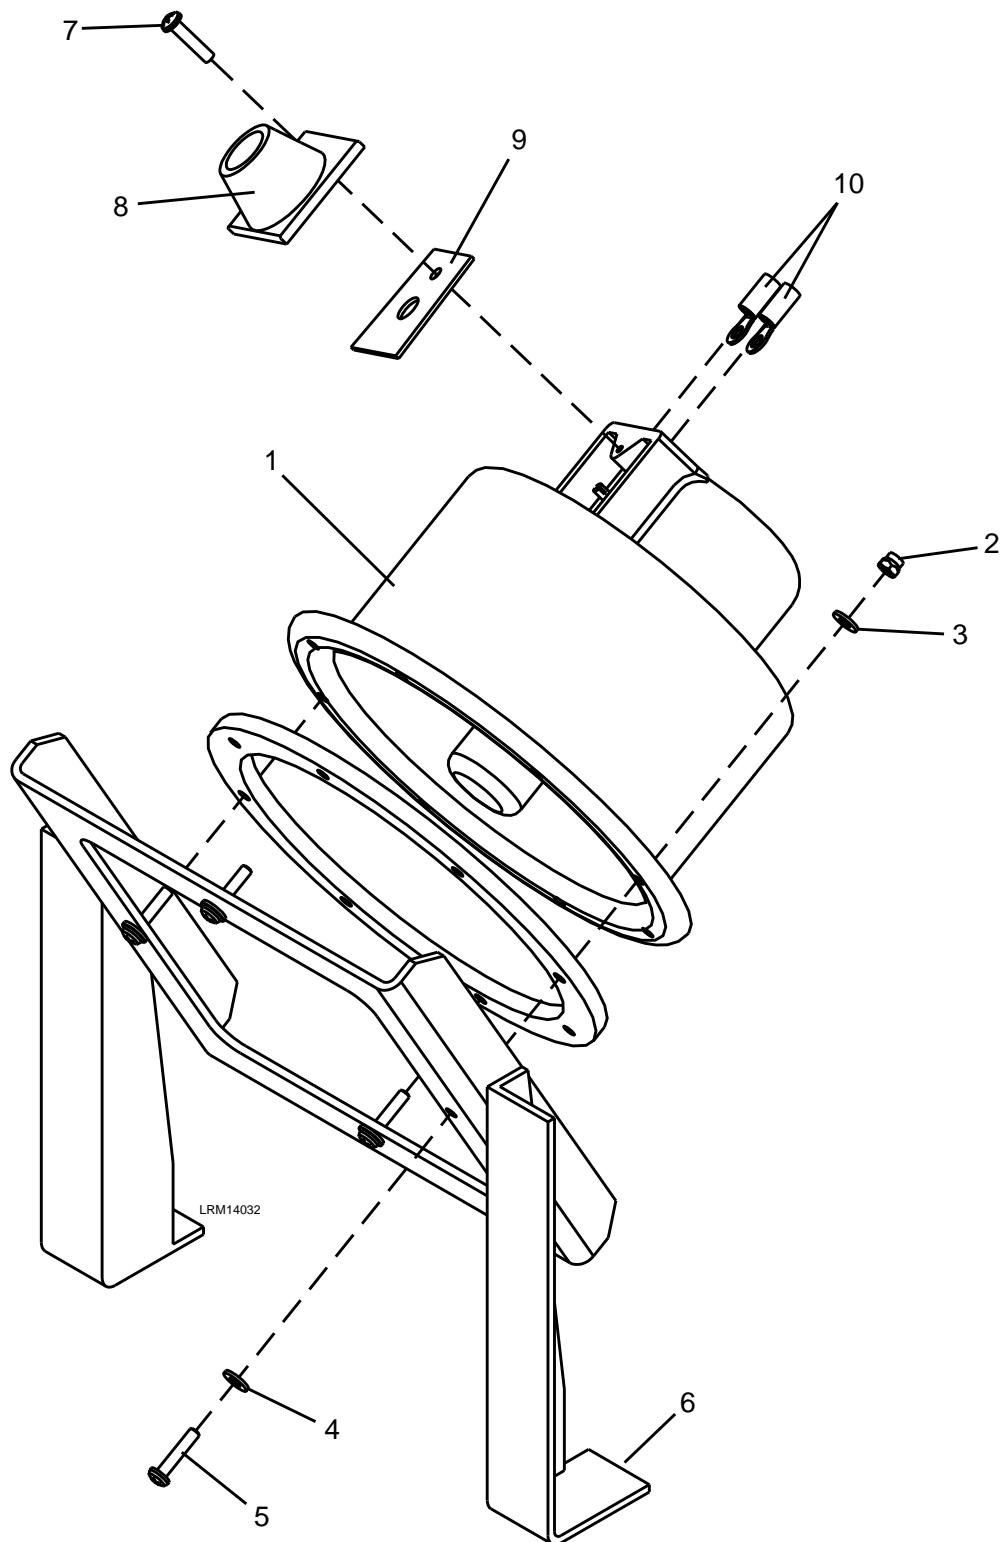

Figure 8-14: Exterior Speaker
1. Disconnect the #6 electrical connections (10) from the Exterior Speaker (1) by removing the screw (7) from the cover (8) and the cover gasket (9). See Figure 8-14.
2. Remove the four M4 ESNA nuts (2) and M4 plain washers (3), M4 x 20 screws (5), and M4 plain washers (4).
3. Carefully remove the Exterior Speaker (1) from the mounting bracket (6).